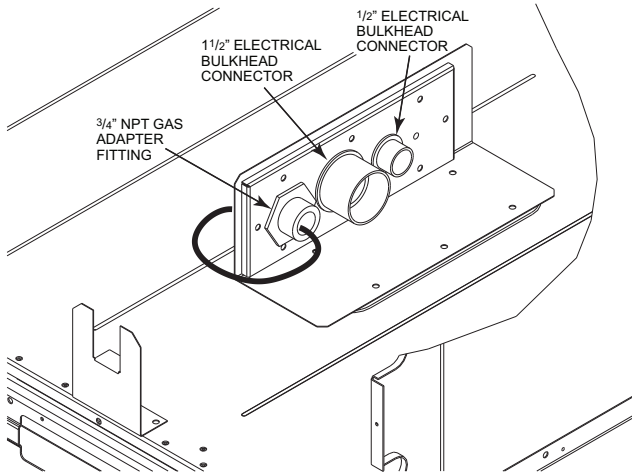

Fig. 18 — Thru-the-Base Option, Shipping Position
FACTORY OPTION THRU-BASE CONNECTIONS (GAS CONNECTION) — This service connection kit consists of a 3/4-in. NPT gas adapter fitting (stainless steel), a 1/2-in. electrical bulkhead connector and a 1 1/2-in. electrical bulkhead connector, connected to an “L” bracket covering the embossed (raised) section of the unit basepan in the condenser section. See Fig. 18.
1. Remove the “L” bracket assembly from the unit. See Fig. 18.